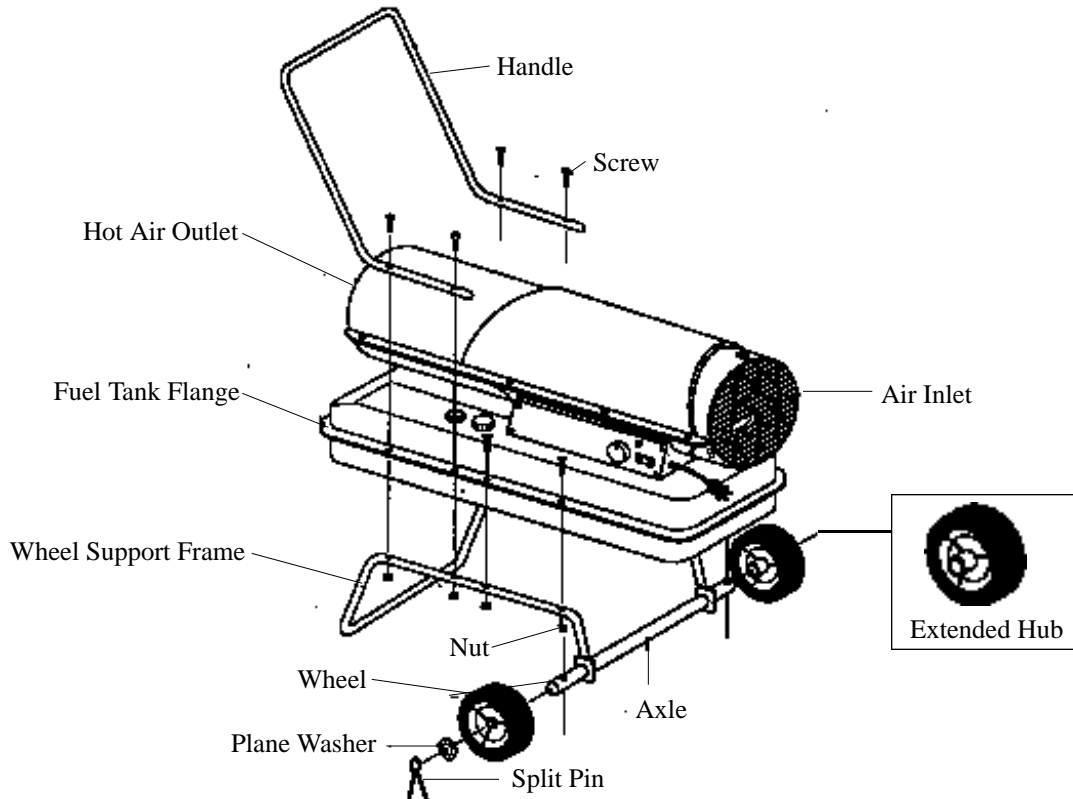

Figure 7. Wheel and Handle Assembly, DFA120/DFA170T MODELS ONLY
B. For DFA120 and DFA170T only (Figure 7)
**NOTE:** When installing wheels, point extended hub of wheels toward wheel support frame (see Figure 7)
4. Position the handle on top of fuel tank flange. Insert screws through handles, fuel tank flange, and wheel support frames as shown in Figure 7 and attach nut finger tight after each screw is inserted.